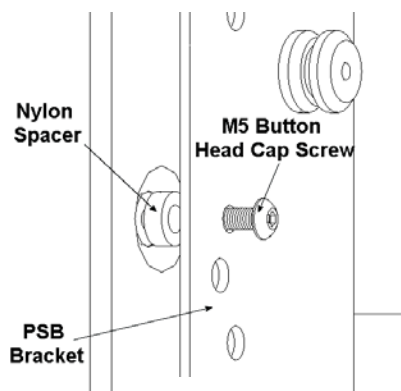
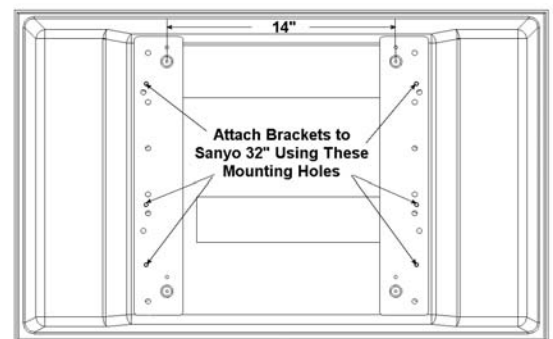

Figure 4
Figure 5
2. Place Nylon spacers over the mounting holes (see Figure 4 & Figure 5) then align hole pattern on brackets with pattern on back of Plasma Display. Attach using the M5 x 16mm cap screws (see Figure 4 & Figure 5).